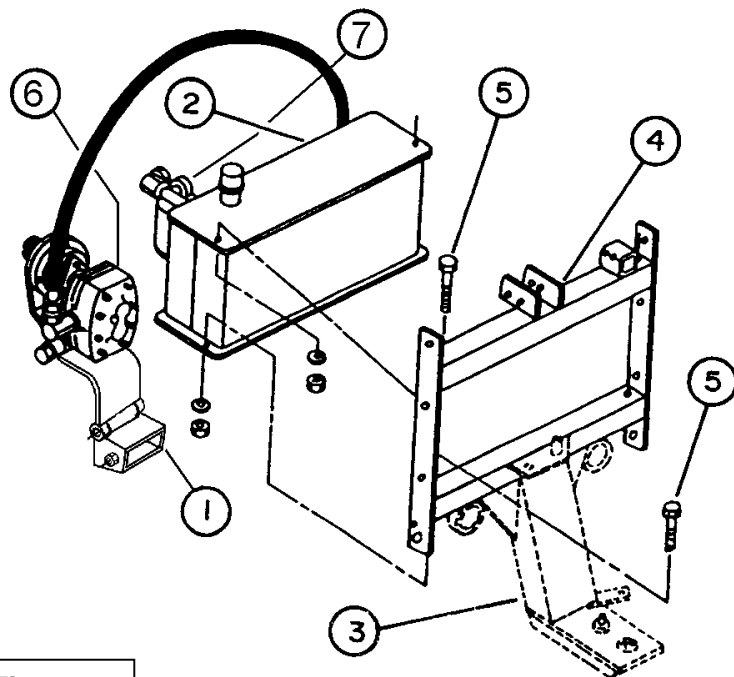

Figure 7
1. Install pump (fig.7, item 1) and reservoir (fig.7, item 2) either on attaching frame or on rear carrier frame, using four 3/8" x 3 3/4" bolts (fig.7, item 5), lockwashers and nuts.
2. Using thread sealant, connect one broom motor hose assembly to pump outlet (fig.7, item 6) using a 3/4"NPT à 1/2"NPT restrictor.
3. Connect the other broom motor hose assembly to filter on reservoir (fig.7, item 7).
4. Fill reservoir (fig.7, item 2) with 7 U.S. gallons (26.5 litres) of SAE 10W30 motor oil.